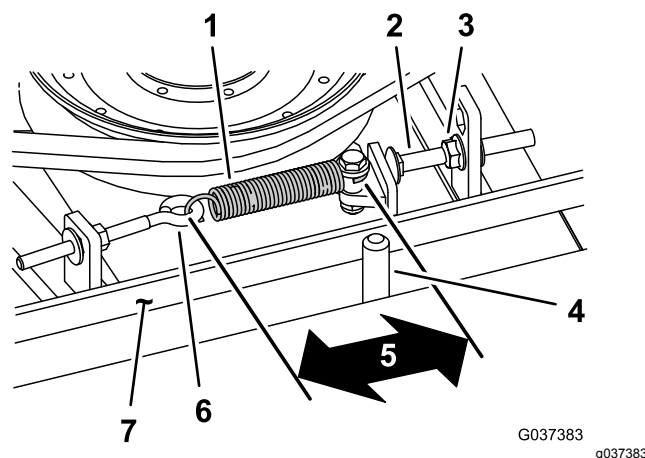

Figure 75
When properly tensioned, the inside measurement of the extension spring (hook to hook) should be approximately 8.3 to 9.5 cm (3-1/4 to 3-3/4 inches). Once the correct spring tension is attained, adjust the stop bolt (carriage bolt) until there is approximately 2 to 5 mm (0.065 to 0.185 inch) clearance between the head of the bolt and the idler arm (Figure 75).
**Note:** Ensure that the belt is positioned on the spring side of the belt guide (Figure 75).
2. Loosen the eye bolt allowing the removal of the extension spring (Figure 75).
3. Loosen the flange nut securing the stop bolt to the mounting tab and move the idler pulley away from the belt to release the belt tension (Figure 75).
9. Connect the extension spring (Figure 75) to the eye bolt and tension the belt as follows: